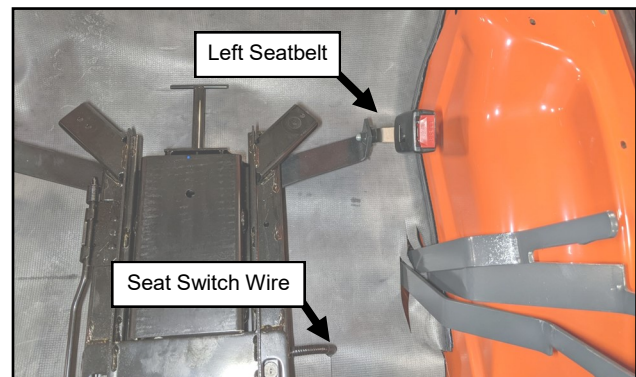

Fig. 19.4 (Position Left Side)
- 19.4 Work the filler down to the bottom of the control levers and underneath the seat belt. See Figure 19.4. Align the front of the filler around the seat switch wire. Do not stick Velcro yet.